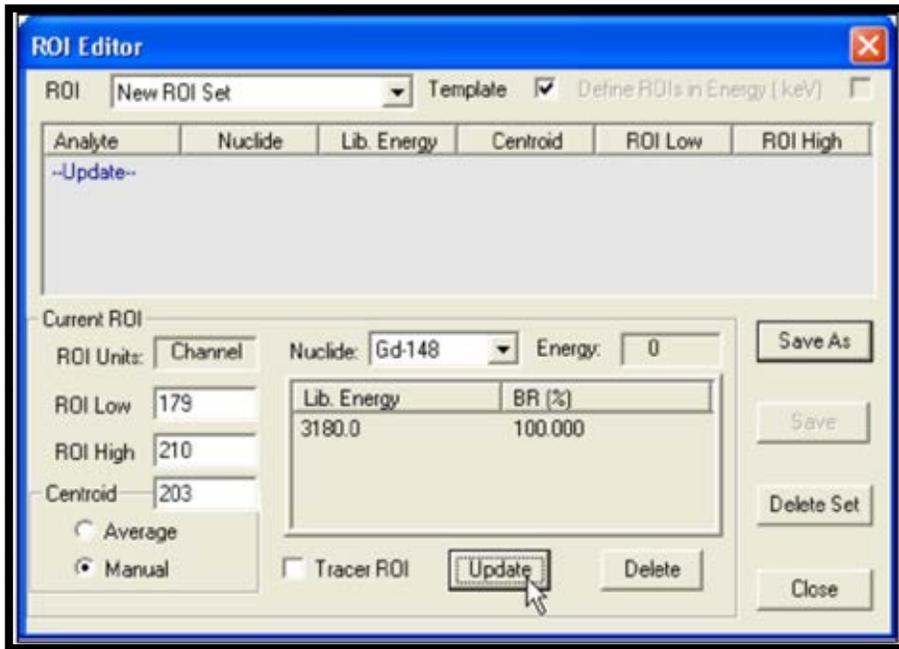
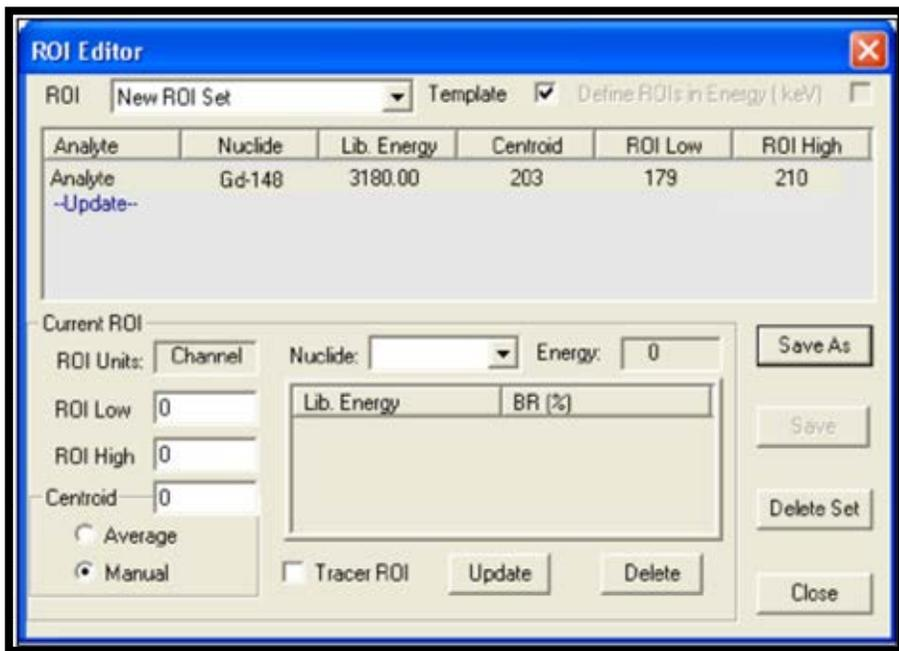

Figure 87. Select Library Nuclide and Click Update
Figure 88. ROI Has Been Added to the ROI Set
- 9) In the ROI Editor, click the **Nuclide** drop list (Figure 87) and choose the nuclide that corresponds to the peak (^{148}Gd in this example).
- 10) Finally, click **Update** (Figure 87). The values selected will now be displayed in the main section of the ROI Editor (Figure 88). The first ROI for the ROI Set has now been successfully created.